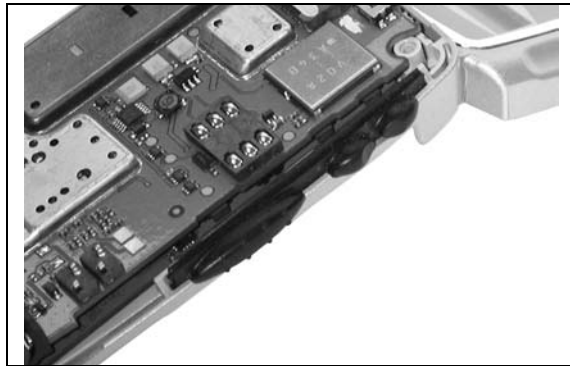

Figure 7-22.
1. Align PTT/Volume Keypad with its respective slot in the Front Housing after the Main/Controller Board Assembly is installed (see Figure 7-22).